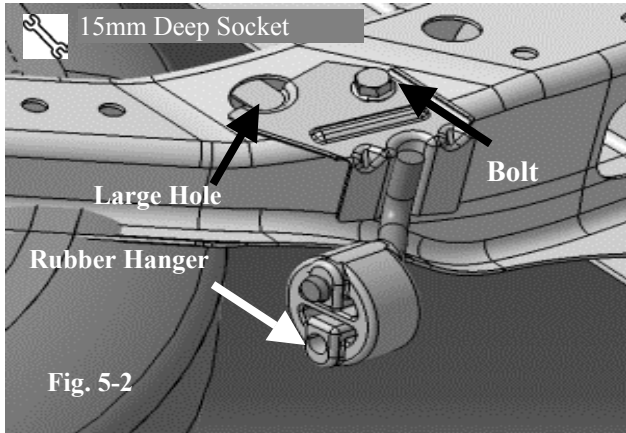

Fig. 5-2
- (b) Line up the anti-rotation tab of the bracket with the larger hole and insert the bolt into smaller hole. (Fig. 5-2)
- (c) Install the nut, supplied in the kit, on the bolt of the bracket to secure the bracket to the spare tire carrier. Make sure the hole and bolt are centered. Then tighten the nut to  $35 \pm 5$  lbs-ft ( $48 \pm 6$  N-m) of torque. (15mm deep socket) (Fig. 5-2)
- (d) Install the new rubber hanger, supplied in the kit, on the hanger rod. (Fig. 5-2)